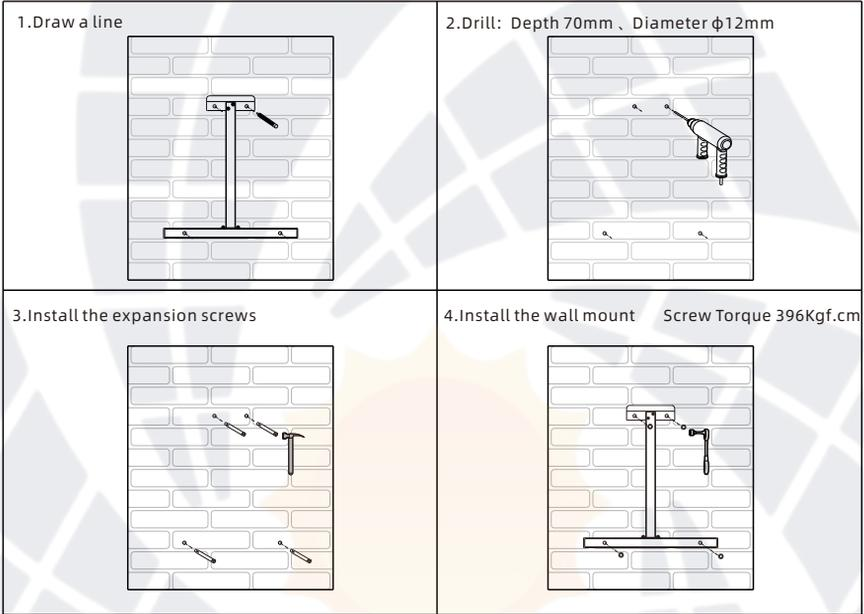

Fig 5.9
**STEP 1:** Use the wall mount plate as a template, drill holes into the wall and insert the expansion bolts as Fig 5.9 show.